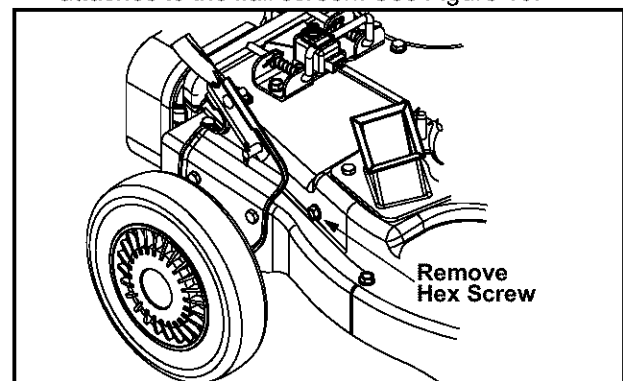

Figure 13
- Remove hex screw on right side of unit that attaches to the flail screen. See Figure 13.